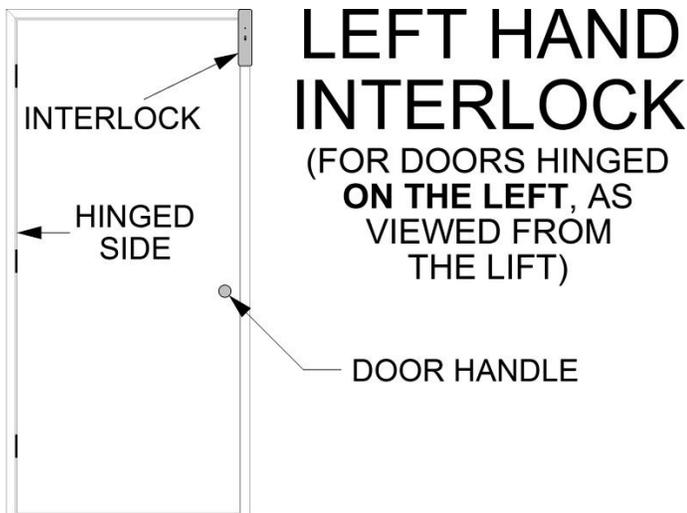

FIG. 12.1
- ⚠️ Left Hand or Right Hand Interlock must be specified at the time you place your order for the optional Interlock. Determine whether the door handle is on the left or right when looking at the door from the VPL platform before ordering. FIG. 12.1 & 12.2 illustrate the Left Hand and Right Hand and Interlocks.